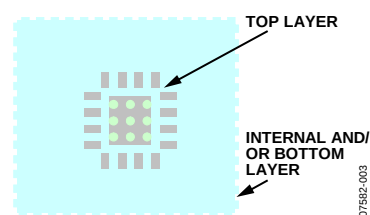

Figure 3. Heat Sink Layout
1. Place nine vias onto the thermal pad of the amplifier. The outer diameter of the vias should be 0.5 mm and the inner diameter is 0.33 mm. If there are internal layers available in the PCB, allocate an area as large as possible as the ground planes and let these vias be connected to the planes (see Figure 3). If internal layers are available, allocate a certain area as a heat sink, and make sure to connect the vias conducting the heat to the internal layers.